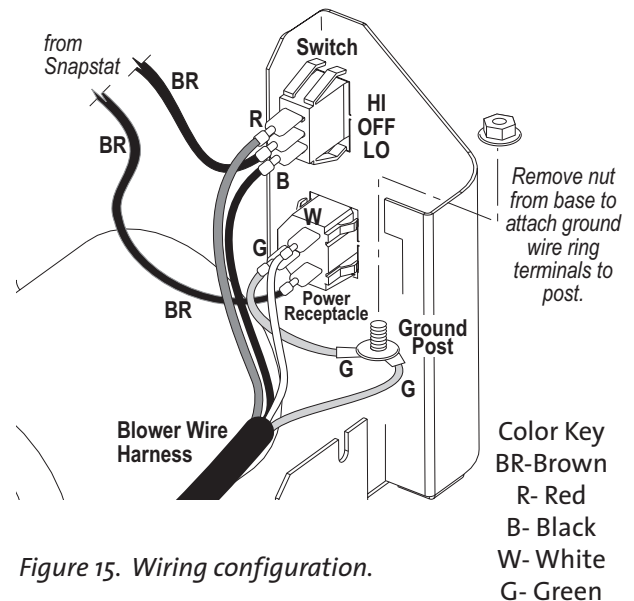

Figure 15. Wiring configuration.
5. Connect the wire leads: Follow the diagram as shown in fig. 15. Connect the loose wires as follows: